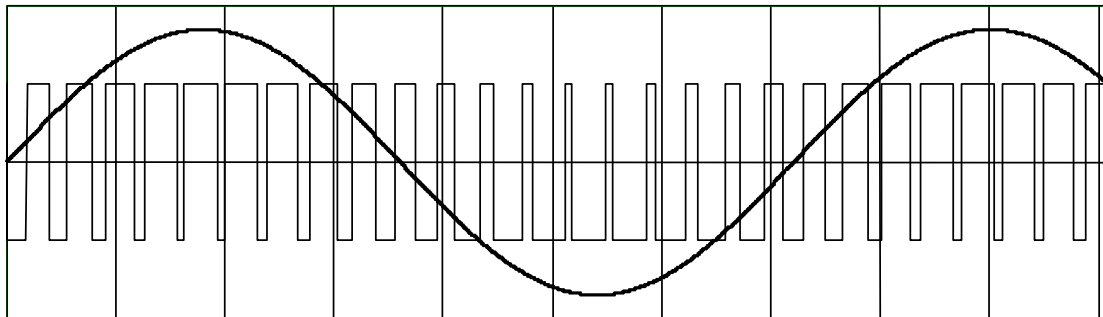

Fig. 5.1.3 PWM Waveform
- Fig. 5.1.3 shows the waveform of the inverter output voltage (rectangular wave) and the average voltage (sinusoidal wave).